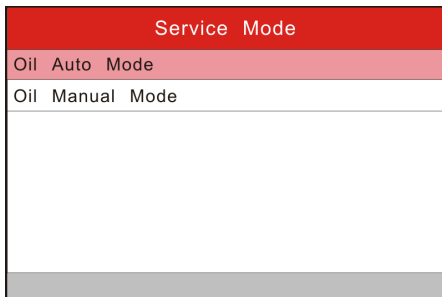

Figure 5-40
Choose the desired one (e.g. BENZ) and press [OK] to enter Figure 5-40:
*Note: The available service mode (Figure 5-40) varies from vehicle to vehicle.*